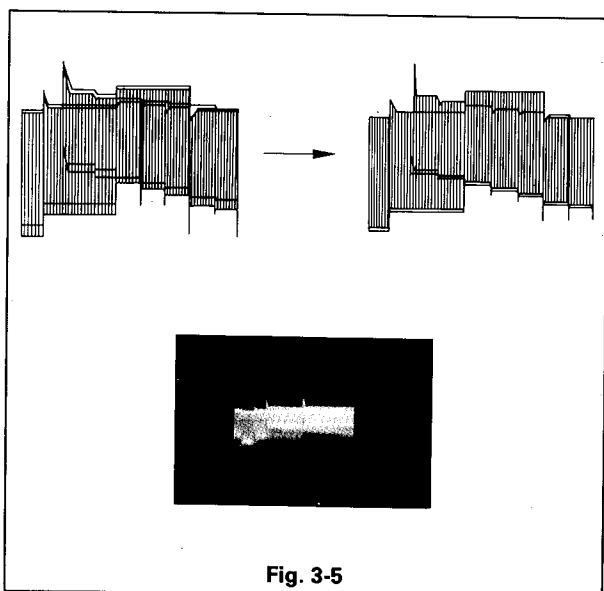

Fig. 3-5
- Referring to Fig. 3-5, adjust VR2A2 (LIM-BAL) so that the Video signal appears as shown.